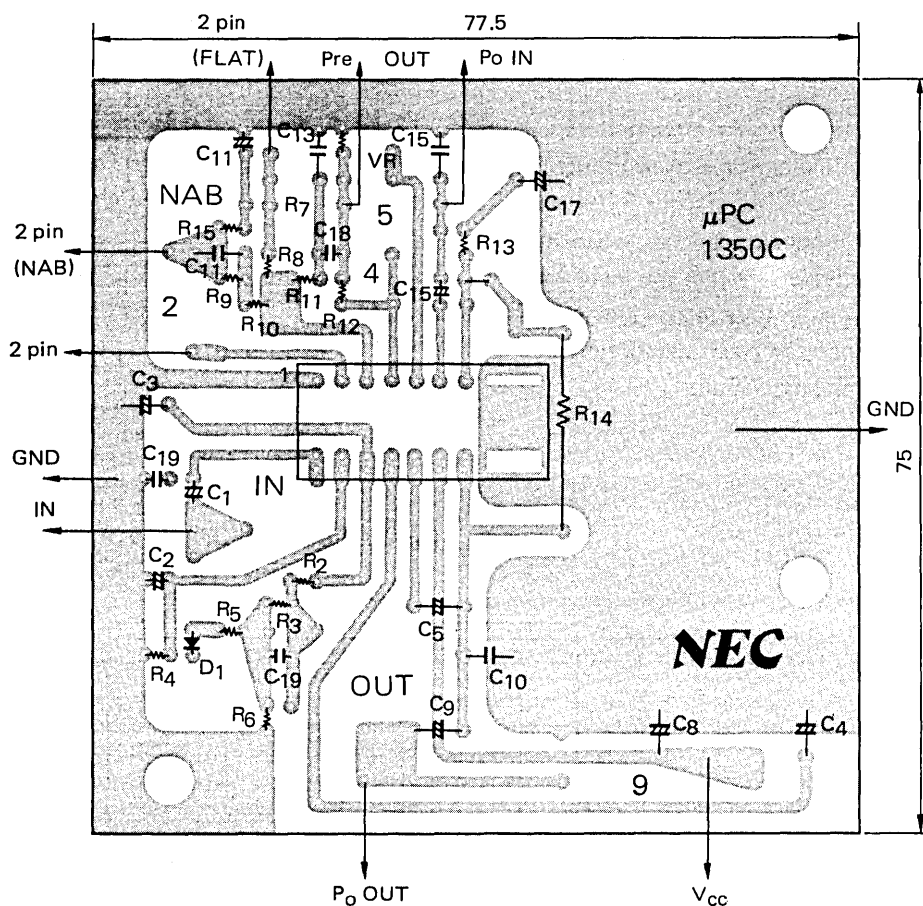

Fig. 13 PRINTED CIRCUIT BOARD
- (3) Mount C₈: 1 000 μF (for bypass), C₁₀: 0.06 μF (output oscillation preventing capacitor), and the speaker terminal close to TABpin (GND).
- (4) Fig. 13 shows the example of a printed circuit board.